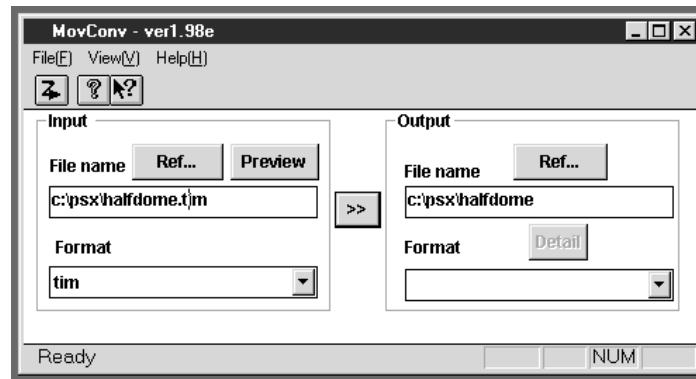

Figure 1 — MovConv Window Example
- 1) Run MOVCONV. Select your source image by clicking on the **Ref...** button in the Input section and then using the file selector. For our example, this will be C:\PSX\HALFDOME.TIM. Note that the output filename is already filled in. You should see a window resembling that shown in *Figure 1*.
- 3) Now we must specify the desired size of the compressed image. Click on the *Details* button in the *Output* section of the main window as seen in *Figure 1*. This should result in the *MDEC Parameters* dialog being shown, as seen in *Figure 1*.